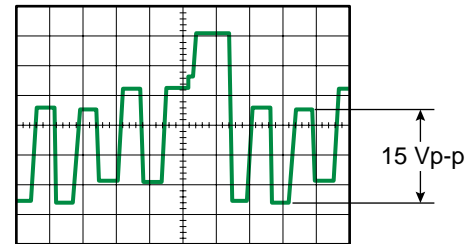

Fig. 4-3
- Adjust the Increment Button (+) or Decrement Button (-) so that the output of TP803 becomes 15 Vp-p as shown in Fig. 4-3.